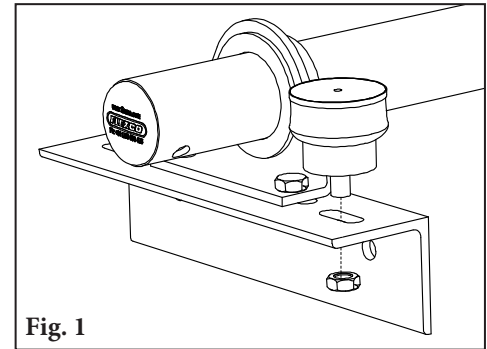

Fig. 1
1. **Insert the air cushion in the slotted hole** in the support bracket and tighten the lock nut on the underside. (Fig. 1).
- 2. Charge the Air Tank.** Using an air compressor or shop air, charge the tank to approximately 690 kPa through the connection on the top of the tank (Fig. 1). Ensure the tank does not exceed 1,035 kPa during this process by monitoring the pressure gauge.